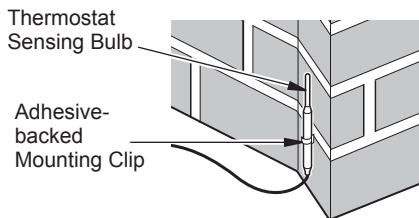

Figure 44 - Locating Thermostat Sensing Bulb on Masonry Fireplace
3. The thermostat sensing bulb may be located to the lower right front side of fireplace. Determine location of sensing bulb, but do not mount sensing bulb until step 4, page 34. If you have a masonry fireplace, see Figure 44 for location.